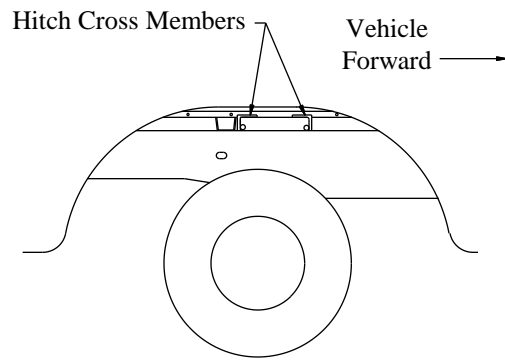

Figure 3
2. Slide the hitch cross members through the notches or bends in the sheet metal flange and align the cross members as shown in Figure 3. The rearward cross member should be positioned up against the bed hat section of the vehicle.